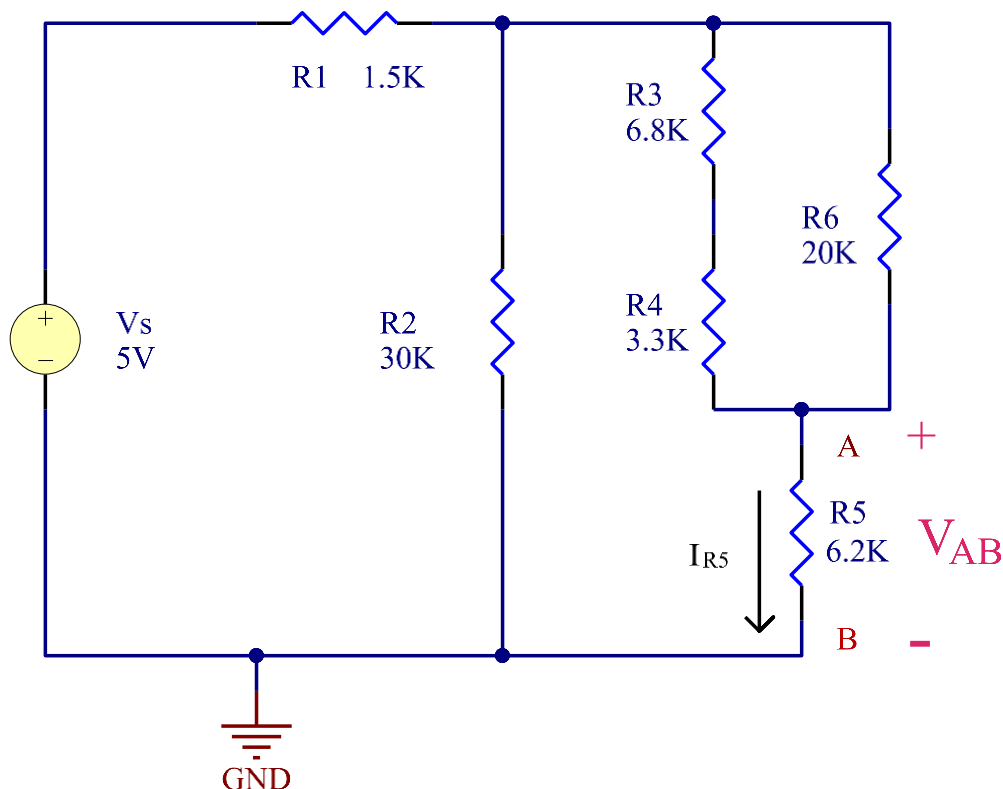

Figure 1: Not So Simple resistor circuit.
b) Build the circuit shown in Figure 1.
- Refer to Figure 1. Give the currents through R_1 , R_2 , R_3 , R_5 and R_6 when $V_s = 10\text{V}$ and $R_1 = R_2 = R_3 = R_4 = R_5 = R_6 = 1\text{k}\Omega$.